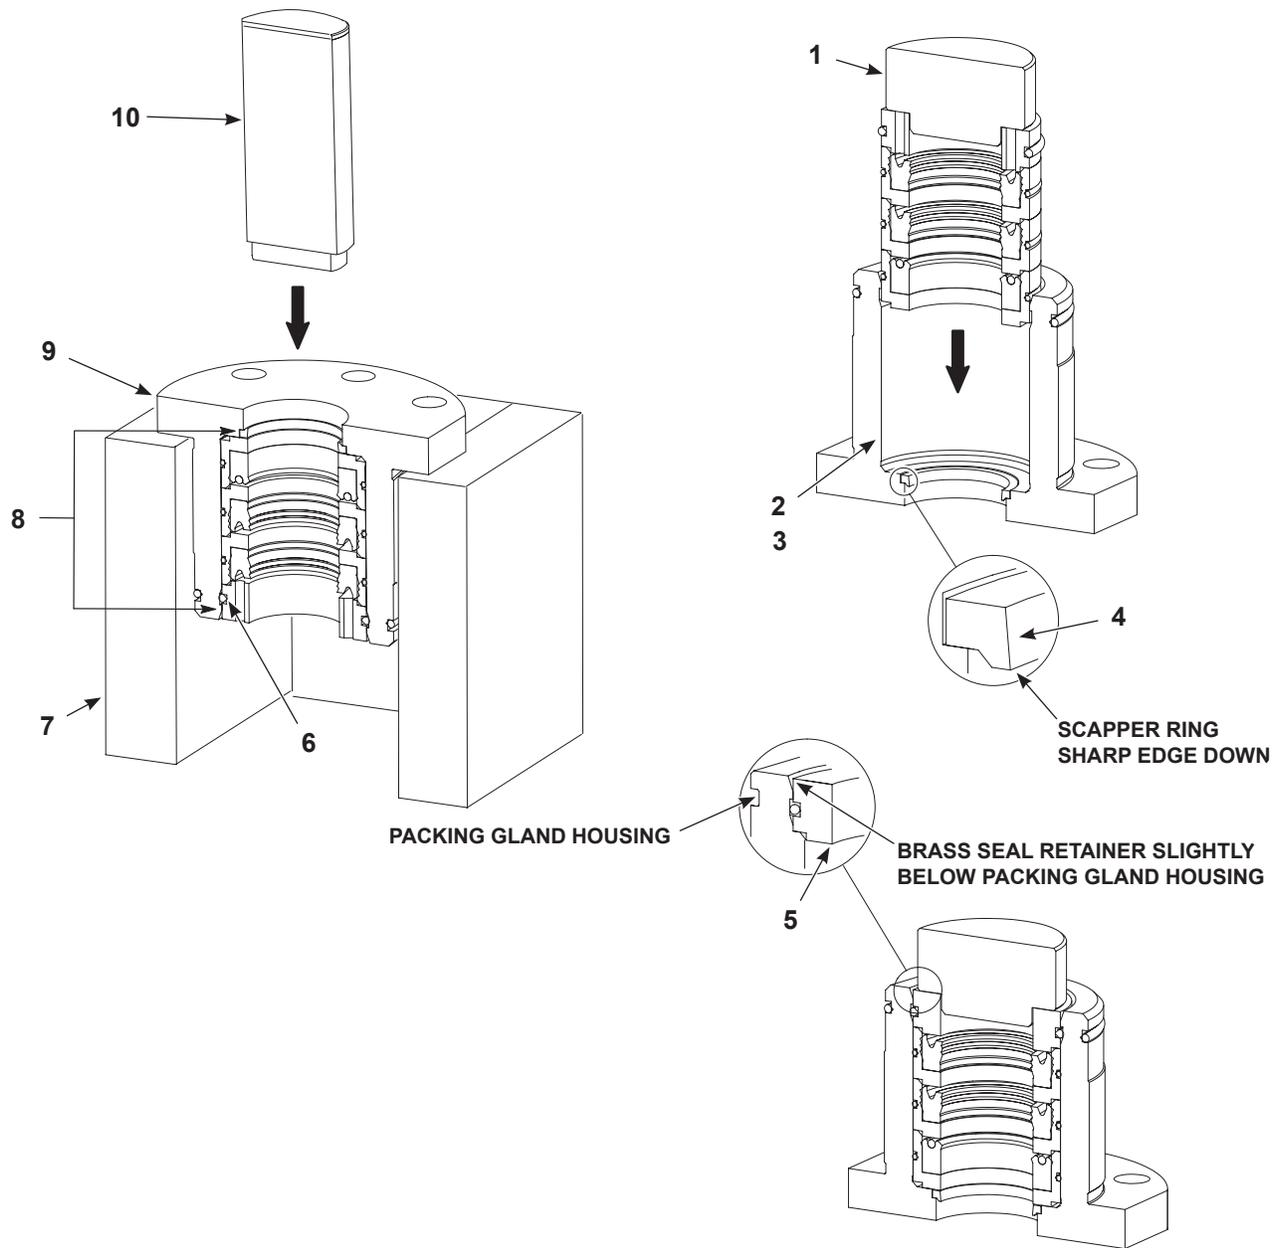

Figure 19 Replacing the Internal Parts of the Packing Gland
1. See Figure 19. Place the packing gland housing (9) on a fixture (7).